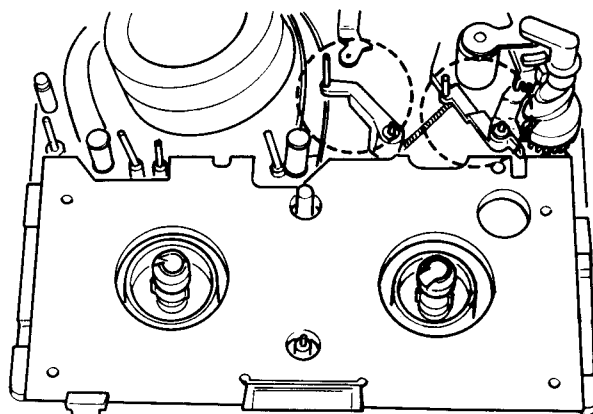

Fig. 31
**Note:** The Adjustment Nut (52) on the Tape Pull-out Bolt P5 must be turned for adjustment purposes only!
- Rotate the capstan rotor in the anti-clockwise direction until the mechanics reaches the position shown in Fig. 31.